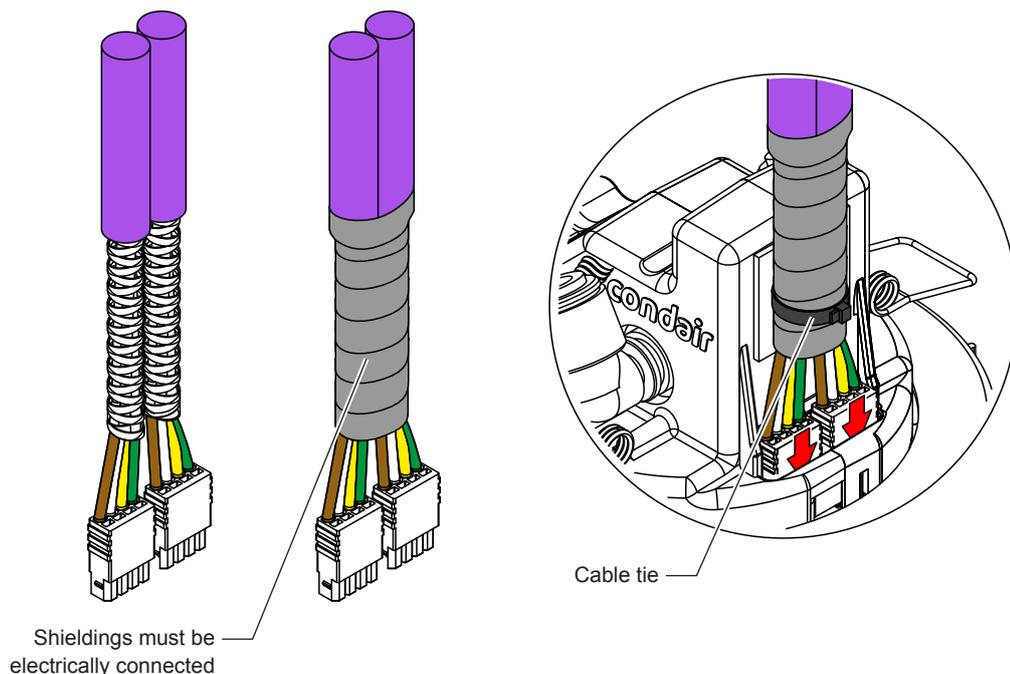

Fig. 31: Connect the CAN bus cable to the spray head
- Align the plugs of the two cables at the bottom and then connect the cables together with adhesive tape, as shown in Fig. 31, so that the shieldings of the two cables are electrically connected (check with a continuity tester).